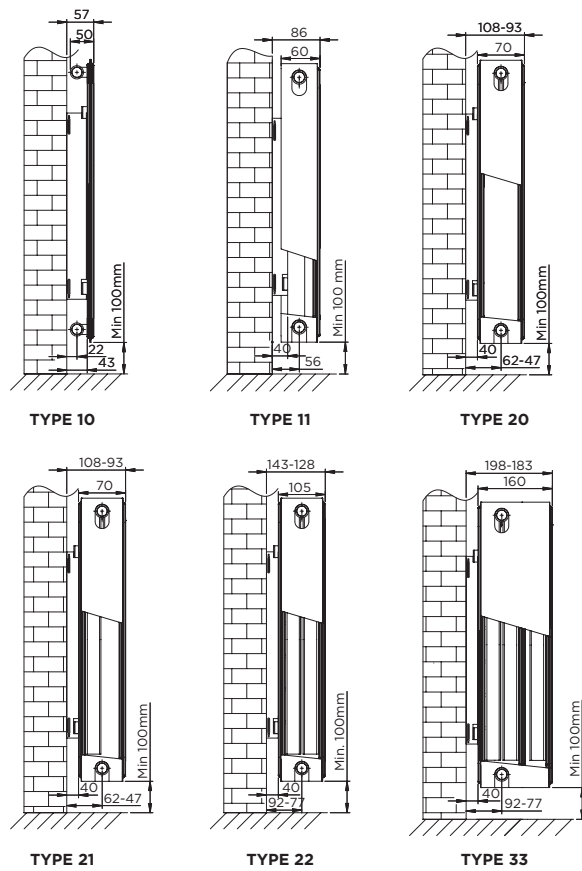

Figure 3
Warmhaus radiators are installed by using dual brackets (Figure 3) as below:
- In cases wherethe distance between the upper side of radiator and the window side is too narrow (less than 90% of the depth for radiators in length of 500 mm and less than 75% of the depth for radiators in length of 300 mm), heat efficiency of radiators reduces (see Figure 3).